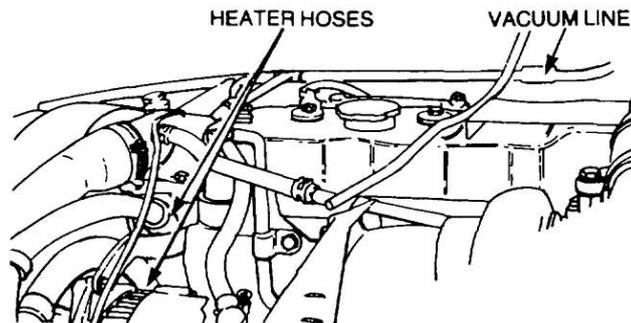

Figure 15 Vacuum Line and Heater Hose Connections
- w.** Connect the vacuum line to the brake servo and differential lock (Figure 15).
- x.** Remove the plastic plugs and connect the heater hoses (Figure 15).